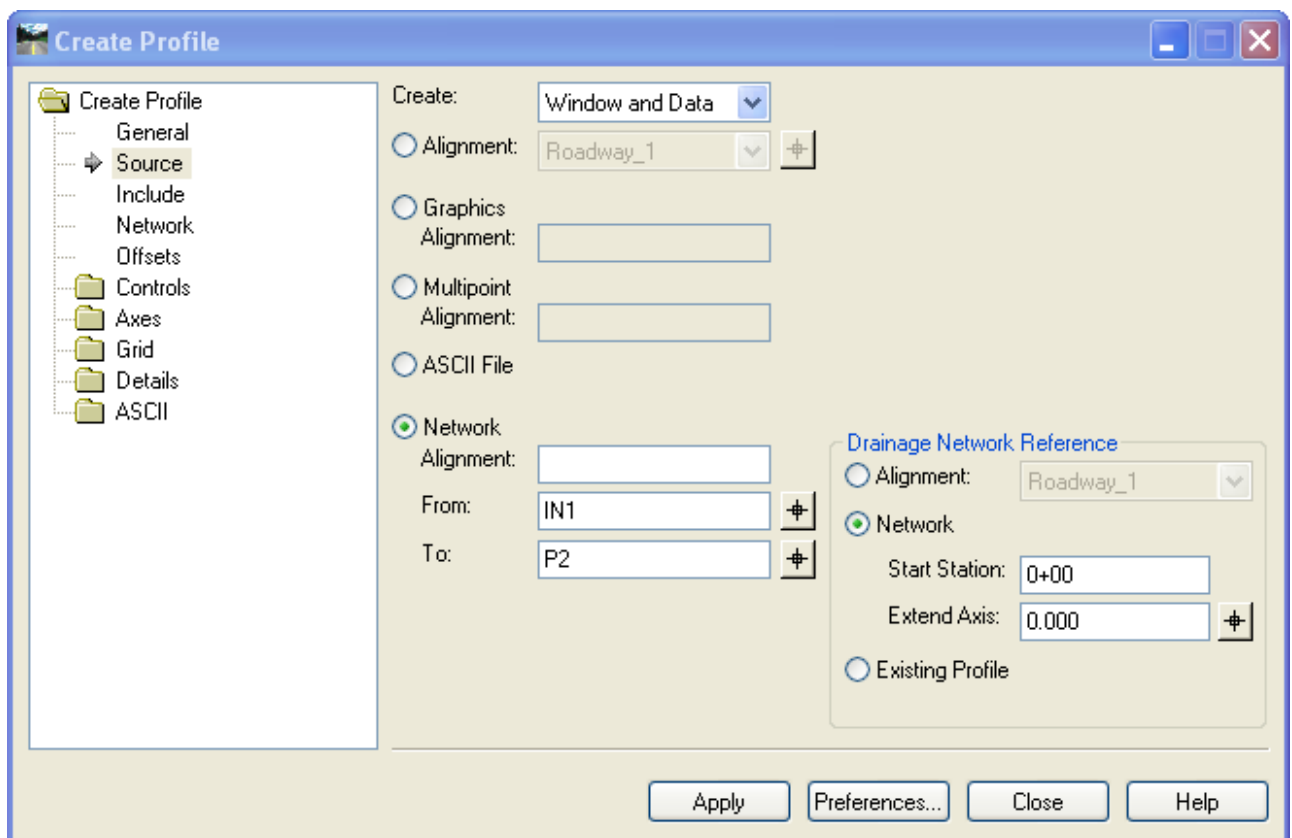

Figure 13-10 InRoads Create Profile Dialog Box, placing drainage profile
- Under Source follow Figure 13-10.